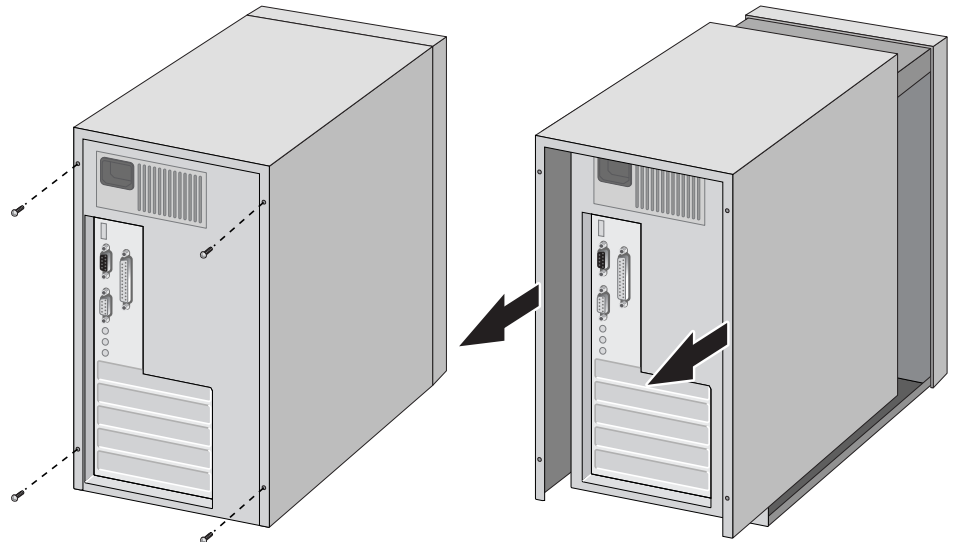

Figure 12. Removing the PC Cover
2. Remove the system cover and select any empty PCIe slot. See Figure 12 on page 37.